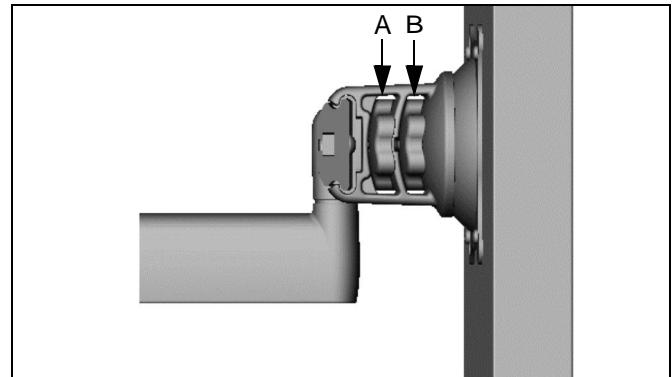

Figure 27: Dual / Triple Display Adjustment
- Using your fingers, slightly loosen adjustment knob "A" (See Figure 27).
- Using your fingers, slightly loosen adjustment knob "B" (See Figure 27).